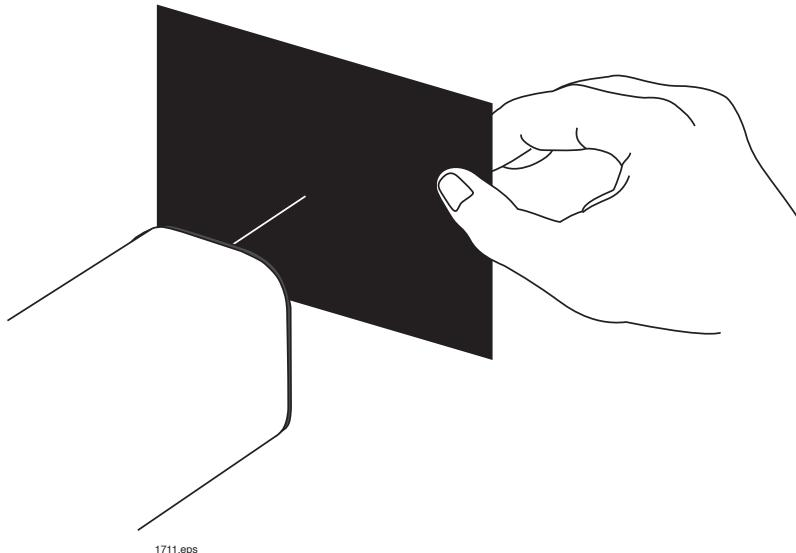

Figure 12. Shutter card raised just before film exposure.
3. Gently grasp the shutter card and lift it just out of the sand, but not out of the path of the laser beam, as shown in Figure 12. Then allow